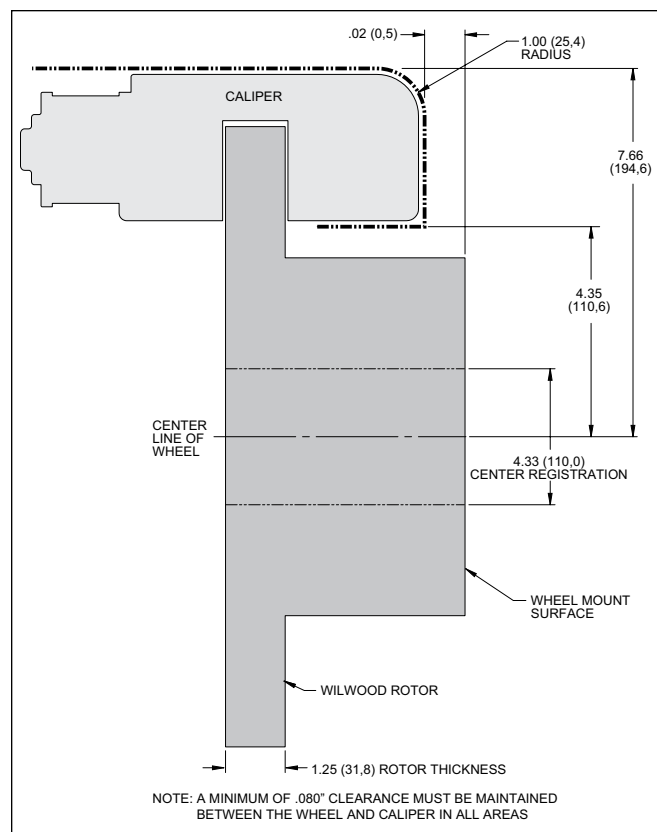

Figure 2. Wheel Clearance Diagram
- Review the Wheel Clearance Diagram (Figure 2, page 3) to verify that there is adequate clearance with the wheels you will be using with the installation.
•Verify your wheel clearance using Figure 2.